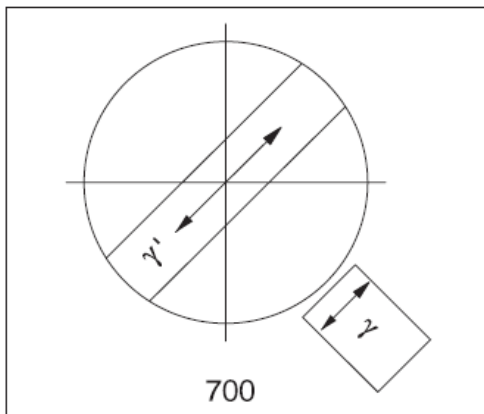

Fig. 4-6 Gamma direction
- Select crystals which are oriented in the gamma direction (Fig. 4-6).